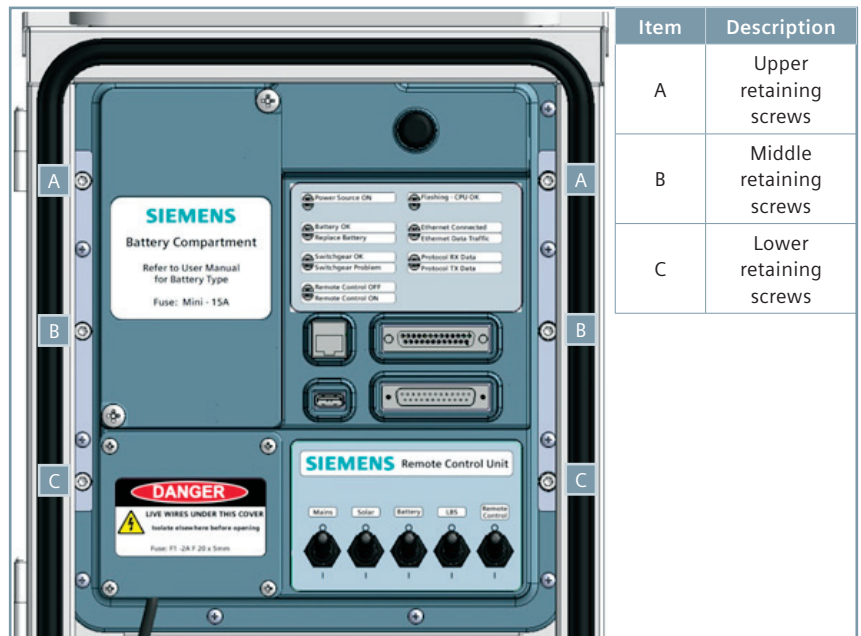

Figure 50: Screws holding electronics compartment in RCU enclosure
7. Unscrew the M5 cap head screws holding the electronics compartment into the RCU enclosure (see Figure 50) using the 4 mm Allen key being careful to support the compartment while doing so. Retain the screws and washers.